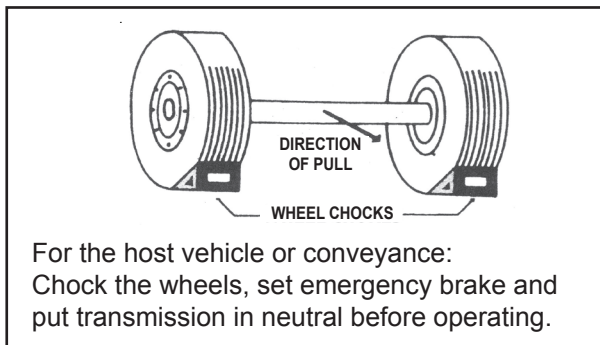

Figure 3
1. Place vehicle in desired location, engage the emergency brake and chock the wheels to prevent from rolling. (Fig. 3)